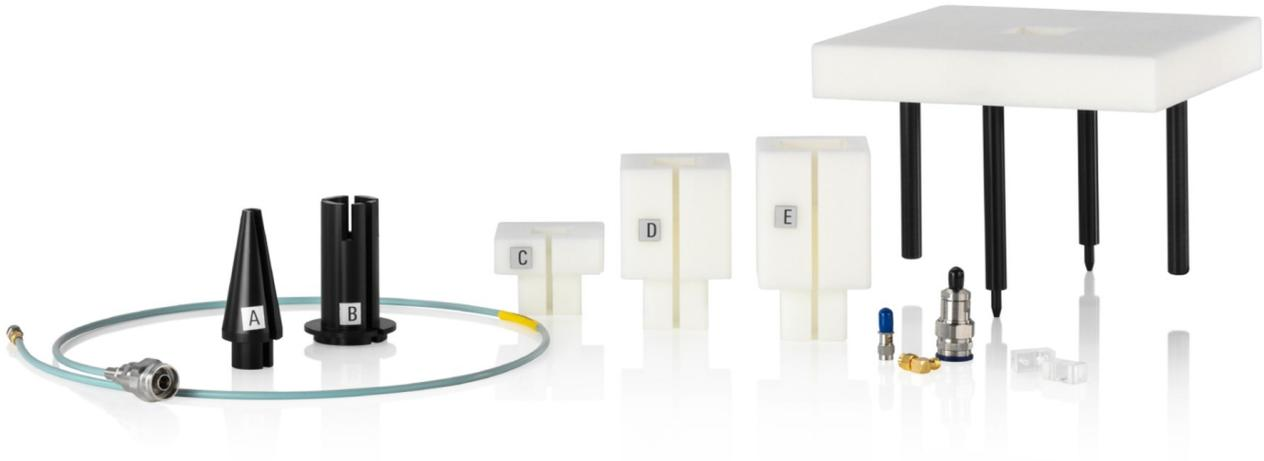

Figure 4-4: R&S DST-B120 positioner kit for calibration antennas
The positioner kit shown in Figure 4-4 consists of a base table, an RF cable, RF connectors and several adapters. They are used to position the reference antenna in the center of the EUT positioners, for example in the center of rotation of the automated 3D positioner R&S DST-B160.
24. Inside the R&S DST200, mount the reference antenna at a height that is equivalent with the center of the selected positioner. Depending on the selected reference antenna and positioner, mount the antenna onto the base table and height adapters (from Figure 4-4) in the following arrangement: